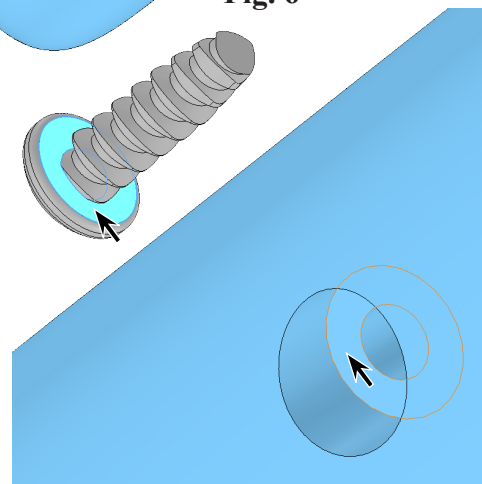

Fig. 7
Step 3. Click **bottom face of Screw head** and **face of counterbore in screw boss**, **Fig. 7**.